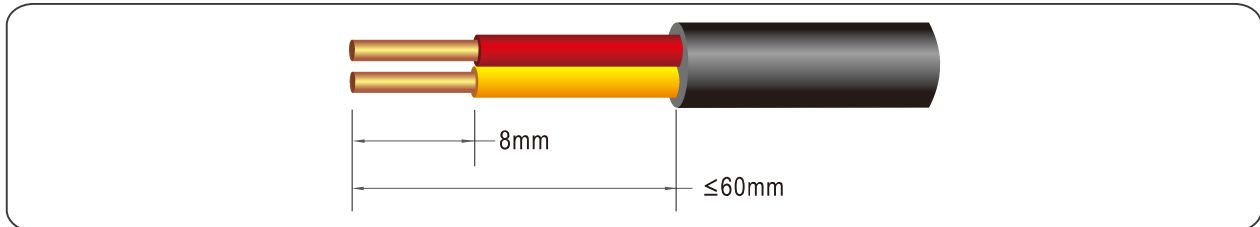

Figure 5.19 Stripping an RS485 communications cable (unit: mm)
**Step 1** Remove an appropriate length of the insulation layer from the cable using a wire stripper, as shown in Figure 5.19.